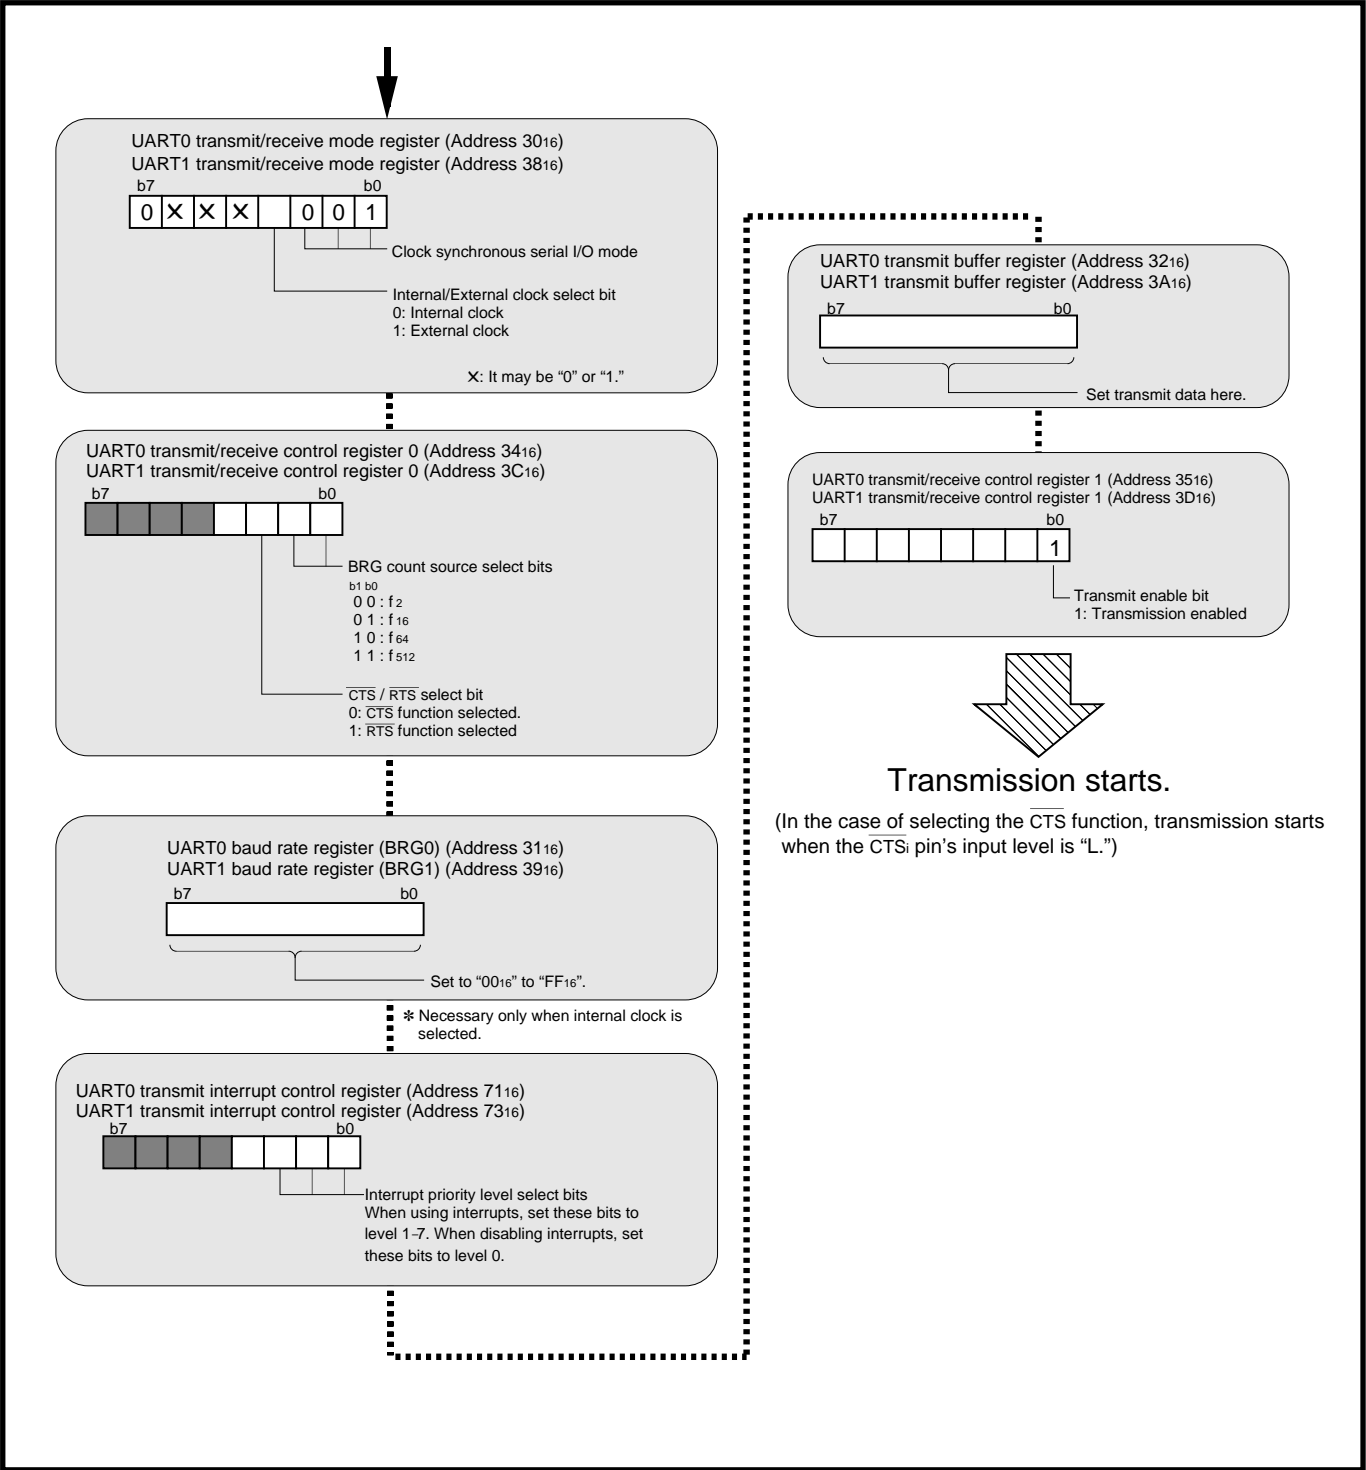

Fig. 7.3.1 Initial setting example for relevant registers when transmitting
Figure 7.3.1 shows an initial setting example for relevant registers when transmitting. Transmission is started when all of the following conditions (① to ③) are satisfied. When an external clock is selected, satisfy conditions ① to ③ with the following precondition satisfied.